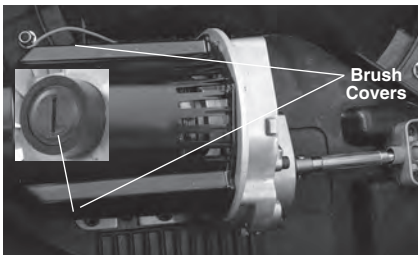

Figure 21 – Inspecting/Changing Motor Brushes
2. Use a screwdriver to remove the brush cover, *Figure 21*. Remove brush and inspect. If there are any signs of damage or shorter than 1/2" (13 mm), replace brushes.